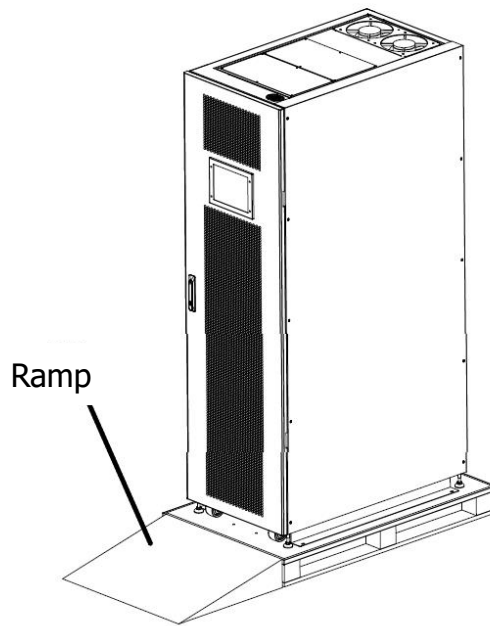

Figure 2-3
- Put the ramp in the front of the cabinet. Refer to Figure 2-3.